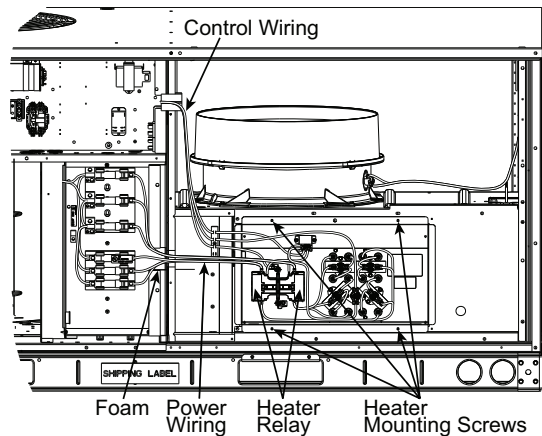
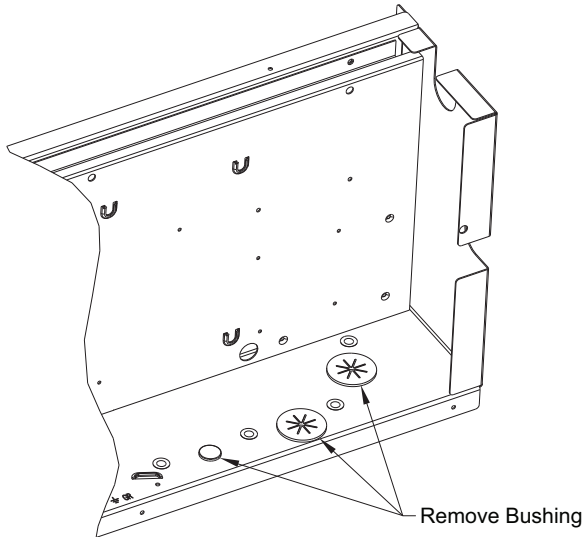
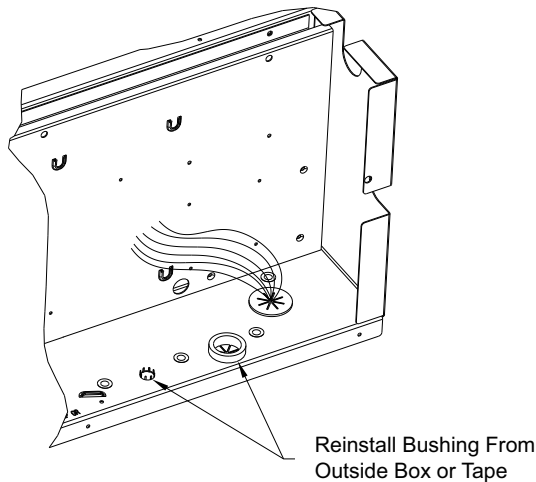

Fig. 3 — Typical Single Point Kit Installation
Fig. 7 — Control Box - Bushings to Remove
Fig. 8 — Bushings Replaced from Outside Control Box
6. Install the electric heater module and connect heater power conductors to single point box or main unit control box per appropriate connections figure. (See Appendix A on page 11.) See Fig. 3 for typical installation.
7. All bushings in the area of the control box where the single point box (SPB) mounts, must be removed prior to securing the SPB to the control box. (See Fig. 7.) Also, for units installed in the snow belt, all unplugged holes in the bottom of the control box which are not used must be plugged before installing the SPB. Use foil tape or reinstall the bushings from the outside of the control box prior to securing the SPB. (See Fig. 8.)
8. Remove the single point box cover. Secure single point box to the underside of the control box with the 2 screws provided. (See Fig. 3.) Re-install bushing on the SPB tap conductors. (See Fig. 8.)
4. Route power wires from heater module through the foam bushing in the center partition and into the single point box. (See Fig. 3.) Connect to terminal block or fuse blocks per schematics in Appendix A or B. See Tables at beginning of each Appendix to identify the appropriate figure.